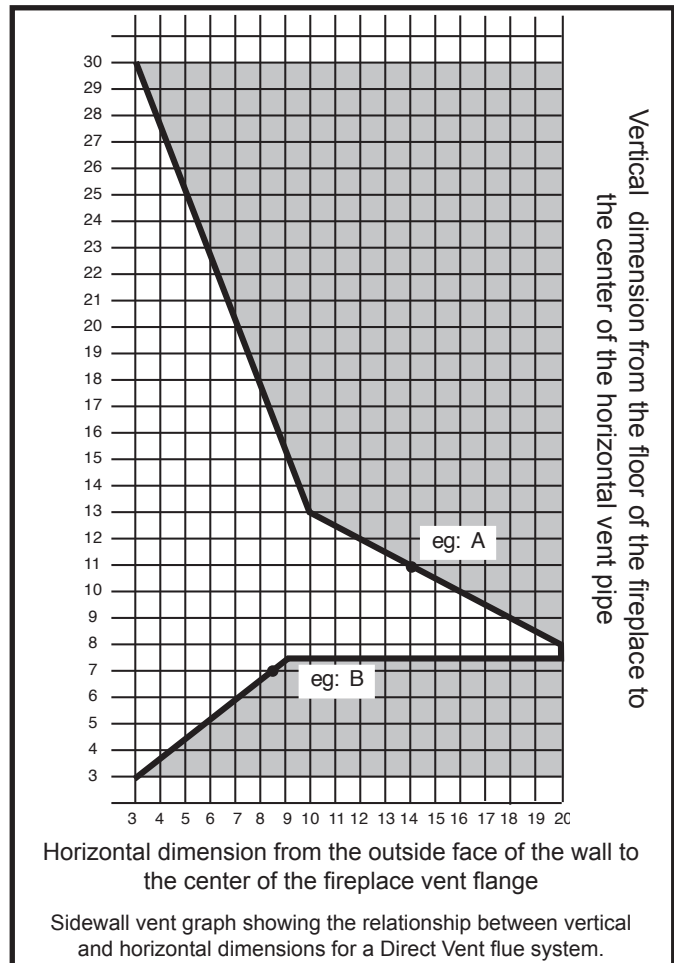

Fig. 15 Sidewall venting graph. (Dimensions in feet)
1. Determine the height of the center of the horizontal vent pipe exiting through the outer wall. Using this dimension on the Sidewall Vent Graph. (Fig. 15) locate the point intersecting with the slanted graph line.